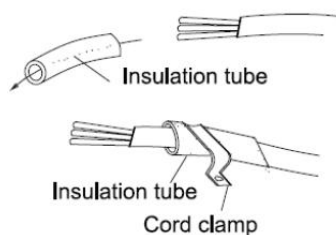

Fig. 4.39
After passing the connection cord and power cord through the insulation tube, fasten it with the cord clamp. (Fig. 4.39)
(1)	The high-voltage and low-voltage lines should pass through the rubber rings at different electric box covers.
(2)	The high-voltage and low-voltage lines should be fixed separately and securely, with internal big clamps for the former and small clamps for the latter.
(3)	Tighten the indoor/outdoor connection cord and power cord respectively on the terminal boards with screws. Faulty connection may cause a fire.
(4)	Connect the indoor unit power supply and communication cable properly based on the corresponding marks as shown in Fig. 4.39.
(5)	Ground both the indoor and outdoor units by attaching a ground wire.
(6)	Unit shall be grounded in compliance with the applicable local, state and national codes.
(1)	The high voltage power cable and the wire of the fresh air valve ( not standard on this model ) are high-voltage, while the communication cable and connection wire of the wired controller are low-voltage. They should run separately to avoid electromagnetic interference.
(2)	Do not bundle the connection wire of the wired controller and the communication cord together, or arrange them in parallel, otherwise improper operation would occur.
(3)	If the indoor unit communication cable (to the outdoor unit) and power supply are improperly wired, the air conditioner may be damaged.